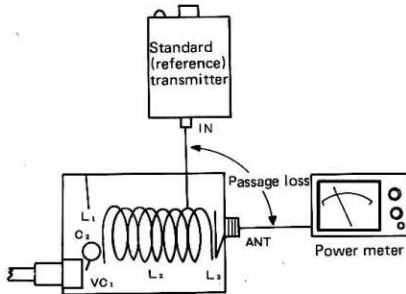

Fig. 27
This adjustment is to be effected with a standard transmitter (such as TR-7200G) connected as shown in Fig. 27. The standard transmitter is assumed to have been accurately calibrated and adjusted to produce a 145.0-MHz output of about 10 watts at 50 ohms.
- 1) Referring to Fig. 27, have FINAL set in "145" position.
- 3) Adjust C2 position and L2 spacing so that the passage loss will be less than 10%, that is, will not exceed 1 watt where the standard transmitter, mentioned above, is used in the hook-up illustrated in Fig. 27.